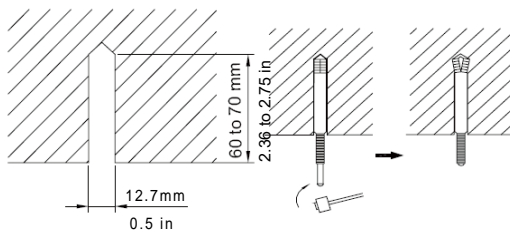

Fig.6
- 2). Install the bolts to the ceiling at a place strong enough to hang the unit. Mark the bolt positions from the installation template. With a concrete drill, drill for 0.5in diameter holes. (Fig.6)